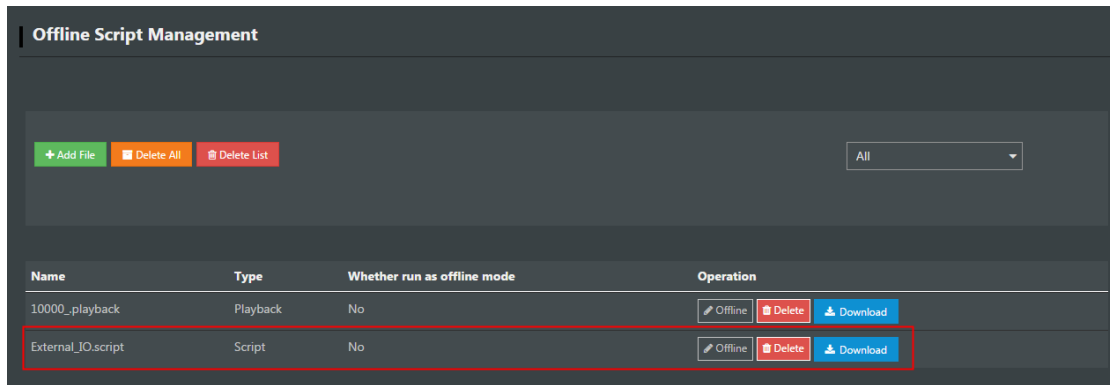

Figure 6.54 Script status
3. Select the uploaded script on the **Offline Script Management** page and click **Offline** to make the script in the offline status, as shown in Figure 6.54.